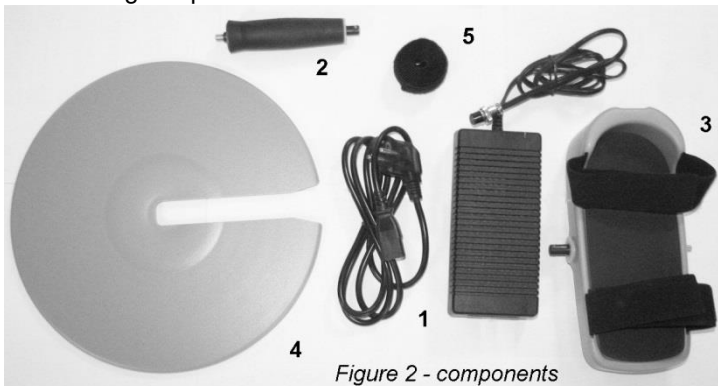

Figure 2 - components
4.2 Primary components (Figure 2):